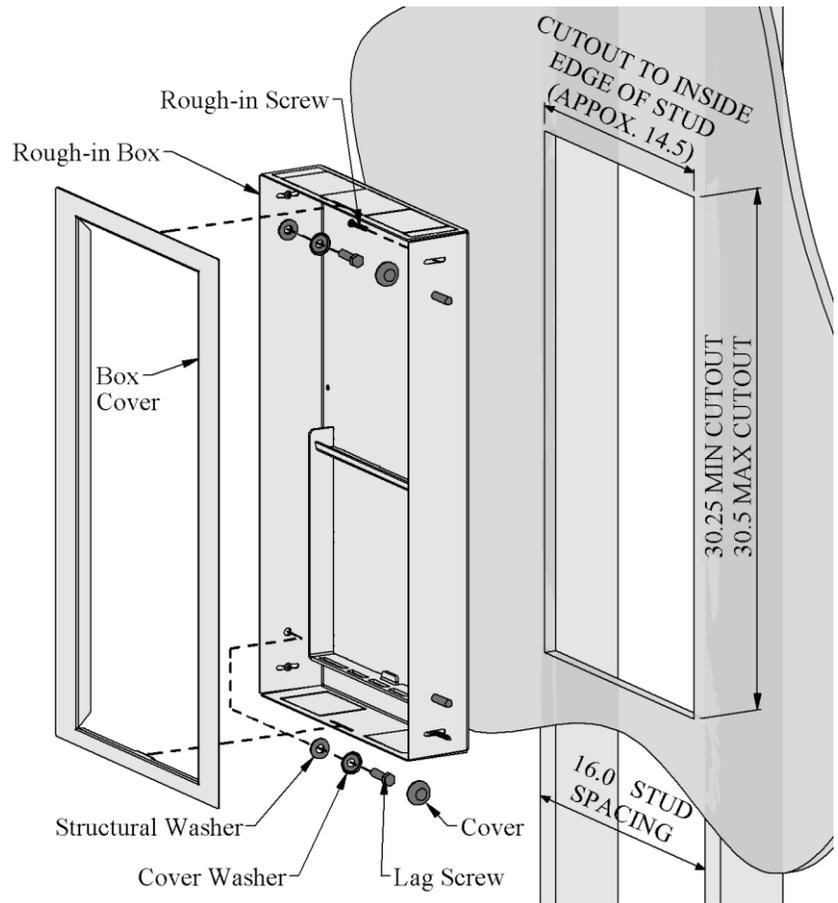
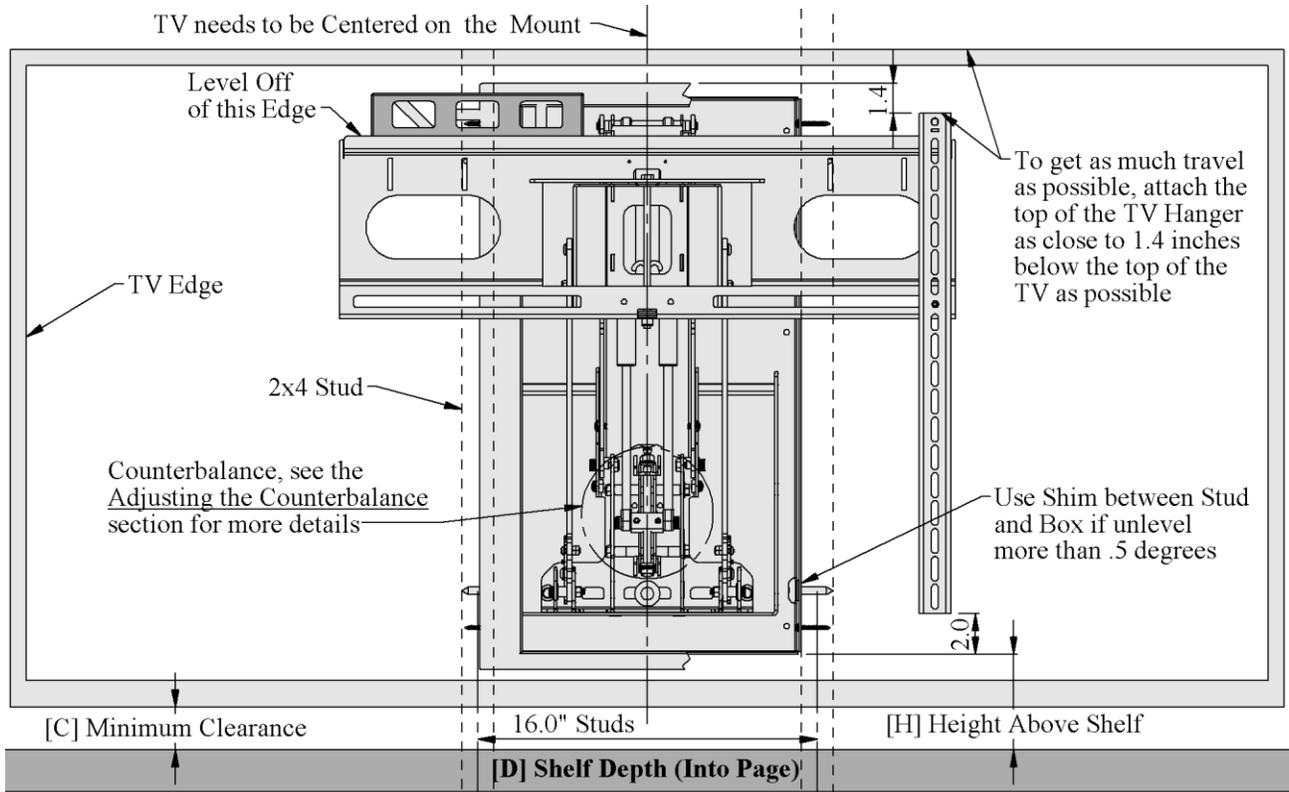

Figure 4, Attaching to Wall
Figure 6, Positioning Mount on the Wall
4. Figure 6 shows how the studs, Rough-In box, shelf, mount, and TV all relate to each other.
1. Figure 6 shows the important things to look for and measure.
1. Figure 4 and Figure 6 show how the mount gets laid out in the wall.
4. The Center of the TV should be centered between the 2 16" studs as shown in Figure 6.
6. Figure 4 shows the correct order to put on the lag screw.
8. Ensure the mount is level, if not add shim between the box and stud as shown in Figure 6.
The TV Clearance Table shows the minimum clearance [C] needed between the shelf top and the bottom of the TV (or the bottom of an attached speaker, whichever is lower) for the mount to swing around the shelf. To find the clearance needed, find the shelf depth [D], in this example 8", and go down the column and find the corresponding minimum clearance height [C], which is 2.75". Figure 6 shows where to measure [C] and [H].